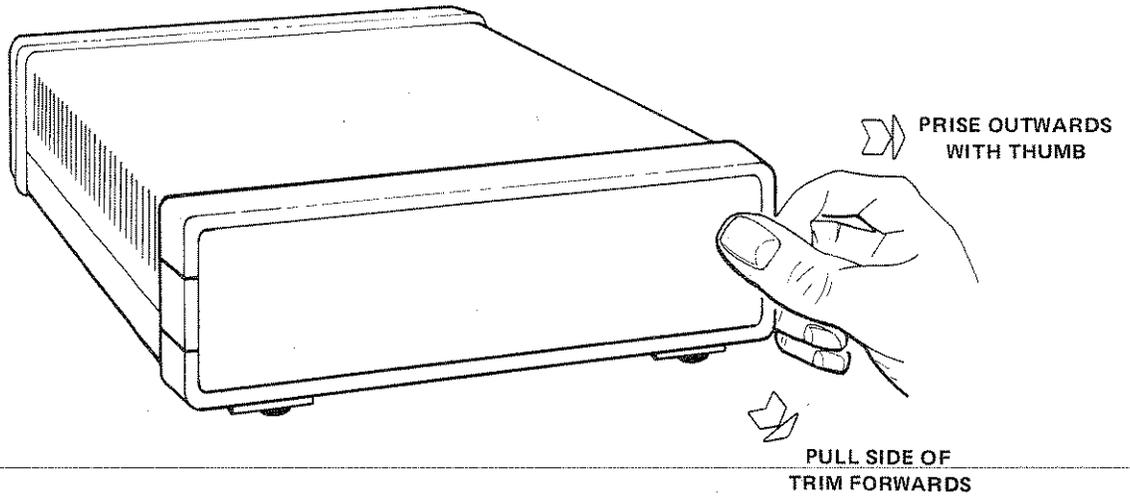

Figure B-1 Removing the Front Panel Trim
2. Remove the front and rear panel trims (see Figure B-1).
1. Remove the plastic trim from the front of the Extender. Release the trim by pushing outwards on one of the sides and sliding the trim forward (Figure B-1).